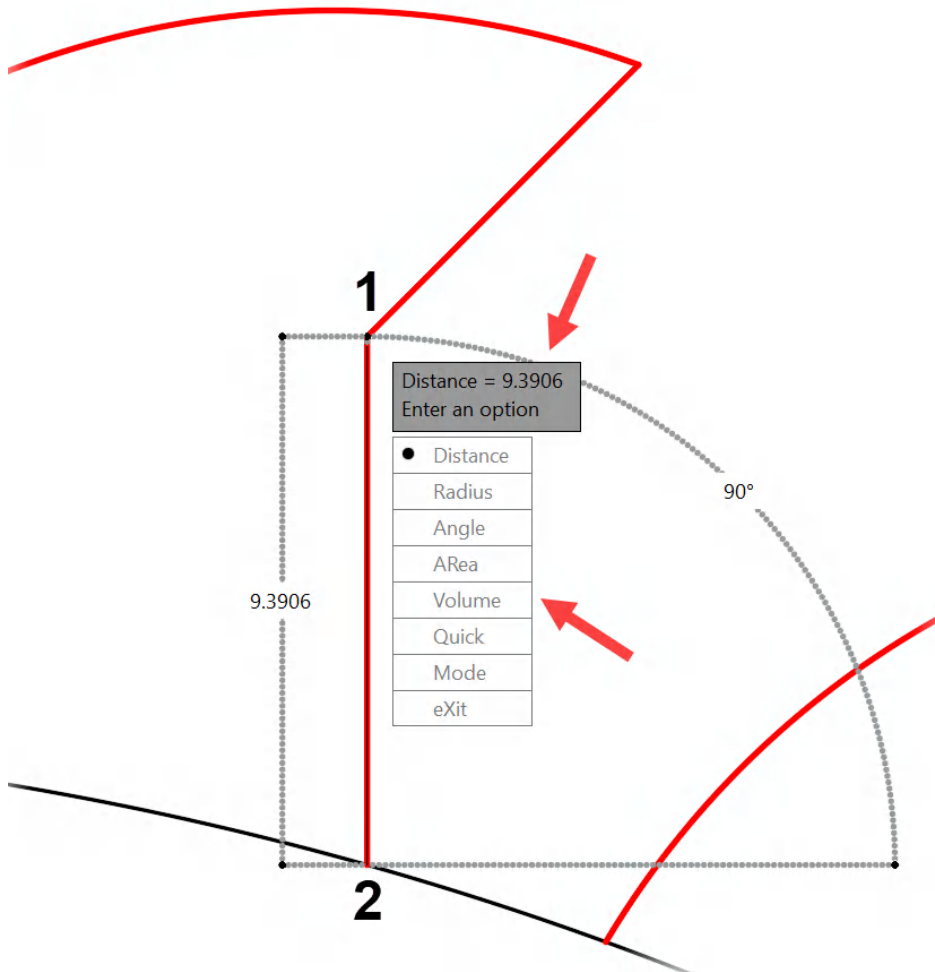

Figure 6.5: Using the Distance tool to measure between points
7. Select the lower point on the saw tooth (shown as **1** in *Figure 6.5*), and then select the point below it (shown as **2** in *Figure 6.5*).
8. The measured distance will then be displayed, along with the **Measure** menu, so you can continue measuring using any of the **Measure** tools, as shown in *Figure 6.5*.